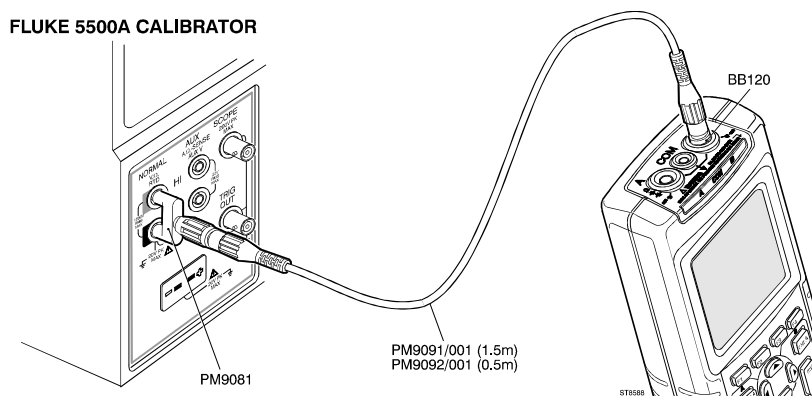

Figure 4-8. Test Tool Input 2 to 5500A NORMAL output
1. Connect the test tool to the 5500A as shown in Figure 4.8.